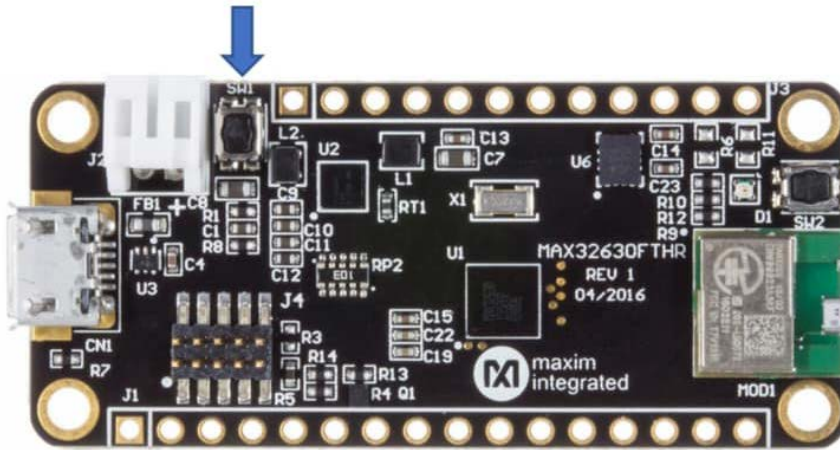

Figure 12. The reset button is SW1 on the MAX32630FTHR.
- Press the reset (SW1) button on the MAX32630FTHR, as displayed in Figure 12.